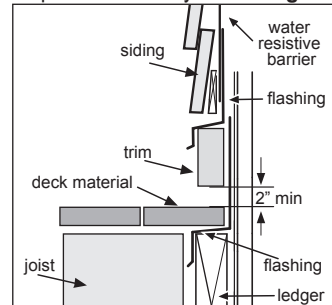

Figure 5
- Maintain a minimum 2" clearance between James Hardie® trim products and roofs, decks, paths, steps and driveways (figs. 5 & 6).